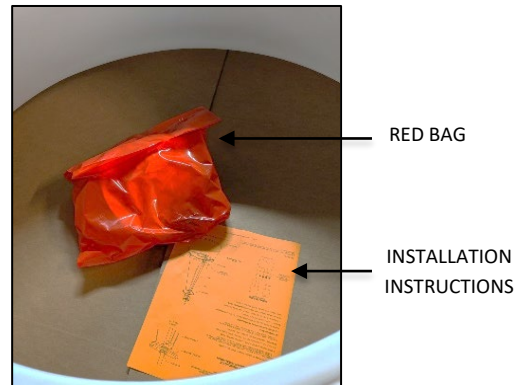

FIG. 3 - RED BAG AND
2. INSTALLATION INSTRUCTIONS (shown in FIG. 3) - Please completely read the install instructions before starting installation.
4. RED BAG (shown in FIG. 3) contains below following items